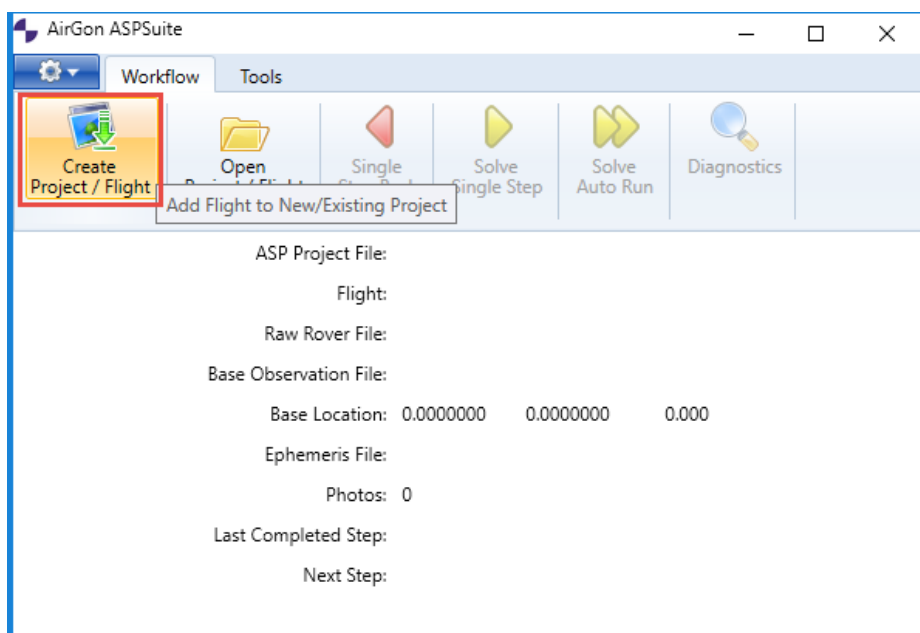

Figure 4- Create Project/ Flight
1. The first step in the workflow is to import data from the aircraft in the field, and check the quality. Start by powering on the aircraft. Earlier version of Loki may need to be powered on before connecting with the USB cable. Newer version will not need to be powered on. The hot shoe device is made to connect directly to a DSLR camera, read the camera signal, and record the photo(s) position. Connect a USB cable from your computer to the Loki controller. Your aircraft should have come with a USB cable to download photos. Connect this cable from your computer to the aircraft. When both devices are connected, Open ASPSuite and select *Create Project/ Flight* (Figure 4).